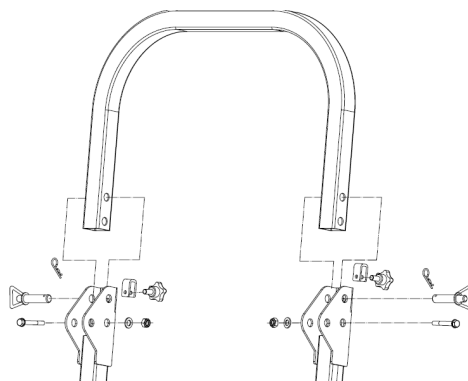

Fig. 4
2. Locate the upper u-shaped section of the roll bar. Install the upper roller section using the latch pin assemblies .Refer to Fig. 4.